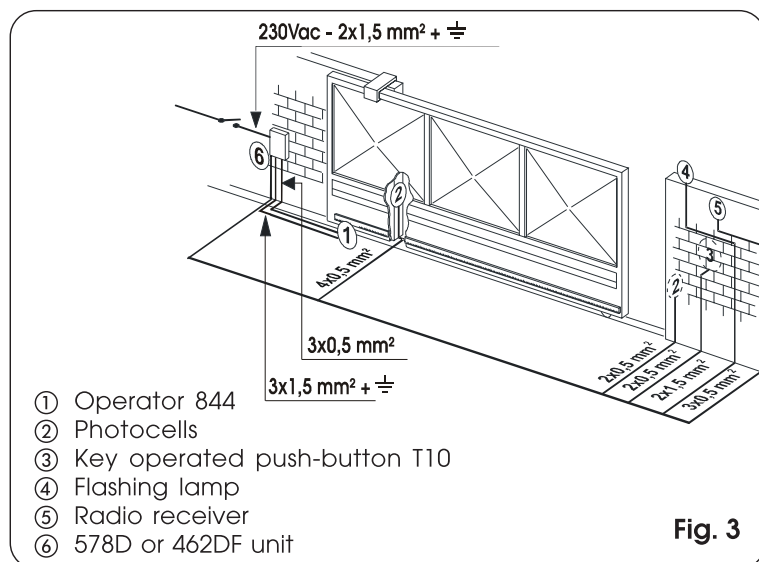

Fig. 3
- 4) Lay the electric cables for connection to the accessories and the electric power supply as shown in Fig. 3 or 3A: To facilitate making the connections, make the cables protrude out by about 40 cm from the foundation plate hole (ref. 1).